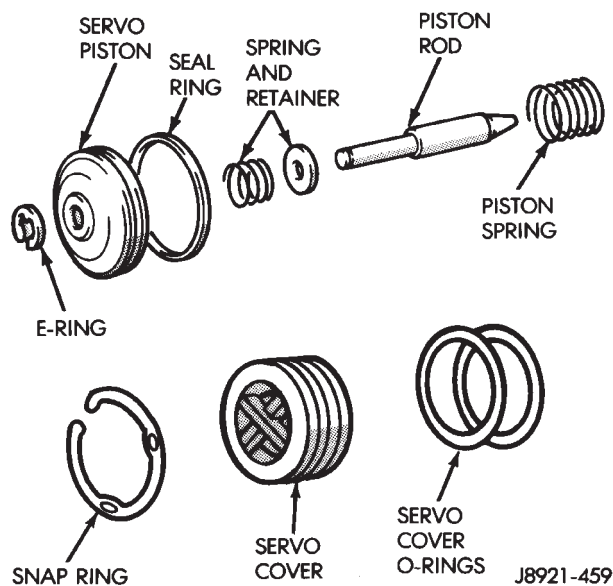

Fig. 32 Second Coast Brake Servo Components
- (4) Remove and discard seal and O-rings from cover and piston (Fig. 32). Inspect E-ring, piston, spring and retainer, piston rod and piston spring. Replace worn or damaged parts.
- (5) Install new seals on cover and piston.
- (6) Lubricate servo components with transmission fluid.